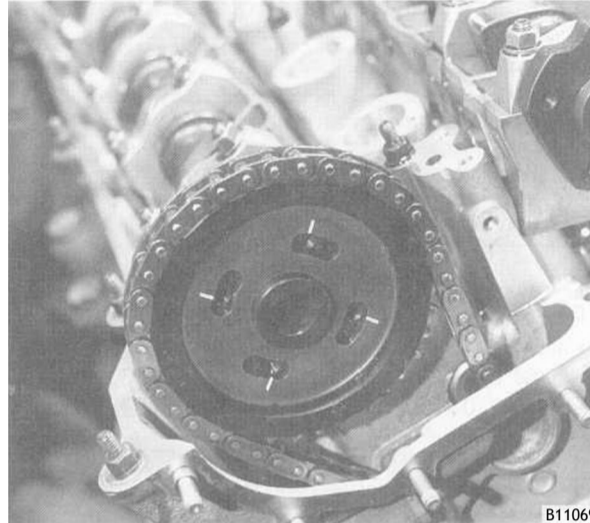

Fig. 29. Primary chain sprocket correctly aligned to exhaust camshaft. Camshaft holes should be on left most side of sprocket holes,
8. Mount the primary chain sprocket to the primary chain so that the arrow on the sprocket faces up. Mount the sprocket to the exhaust camshaft such that the tapped holes in the camshaft are on the left side of the elongated holes in the sprocket. See Fig. 29.